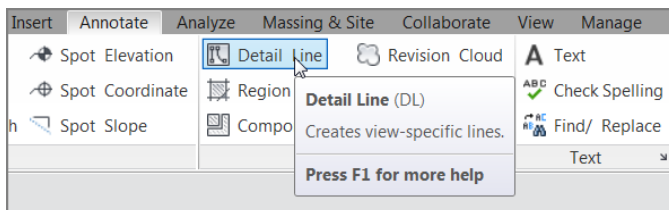

FIGURE 10.34: Click the Detail Line button on the Annotate tab.
5. Sketch a landing that is 8'-0" (2400mm) long × 7'-10" (2350mm) wide (see Figure 10.34). Center it on the reference plane.
2. Click the Detail Line button, as shown in Figure 10.34.